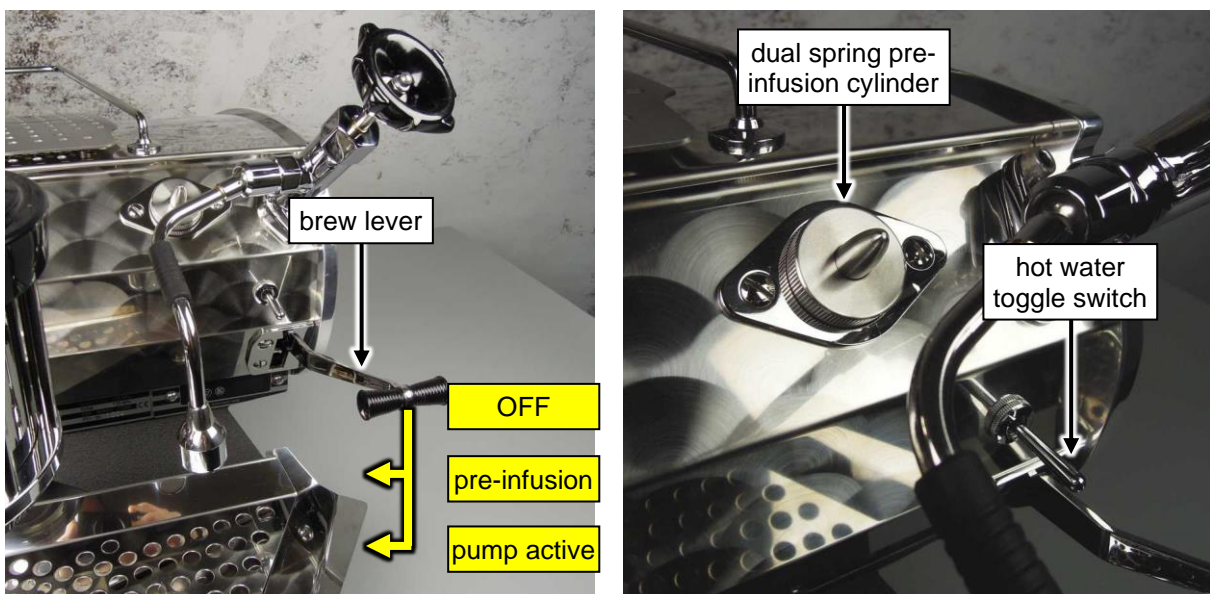
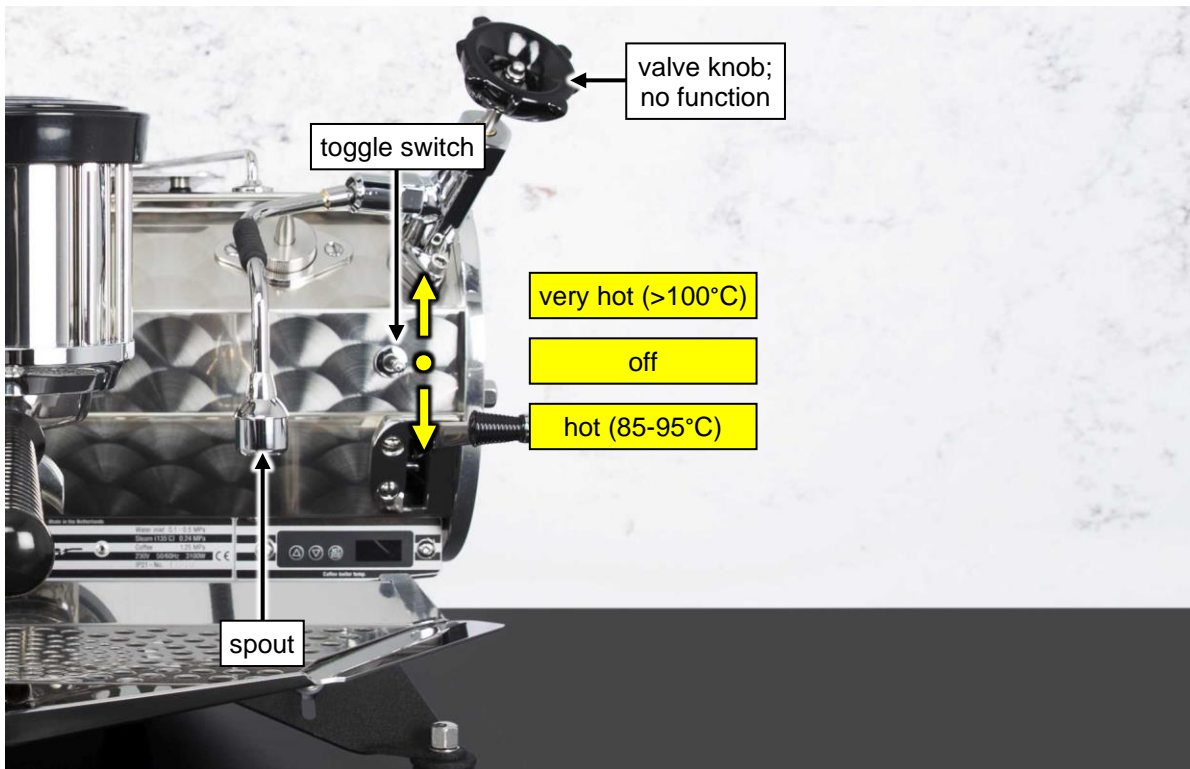

Figure 10. Brew lever with lever positions, progressive pre-infusion cylinder and hot water toggle switch.
Figure 12. Hot water: toggle switch, valve knob and hot water spout.
5. Put the 3-way brewing lever on the right hand side of the machine (Figure 2, item 4) in the lowest position (Figure 10 "pump active").
The 3-way brewing lever on the right hand side of the machine (see Figure 10) operates the group valve and the pump. The lever can be fixed in 2 slots and thus has three operating positions:
When you switch from resting position directly to the lower-left position, the primary increasing pressure is still absorbed by a piston and spring within the so-called "pre-infusion cylinder" up to approximately 3.5 bar. Only when the piston reaches its ultimate position, the full pump pressure of 9 bar is applied to the coffee bed. You can easily check the functioning of the pre-infusion as the guiding rod of the piston will protrude through an opening in the front panel of the machine just left of the hot water tap (see Figure 10).
A three-way toggle switch, located on the right hand side between the brew lever and the hot water valve, controls the hot-water distribution (see Figure 10 and Figure 12). The valve knob itself is purely visual and has no operational function.